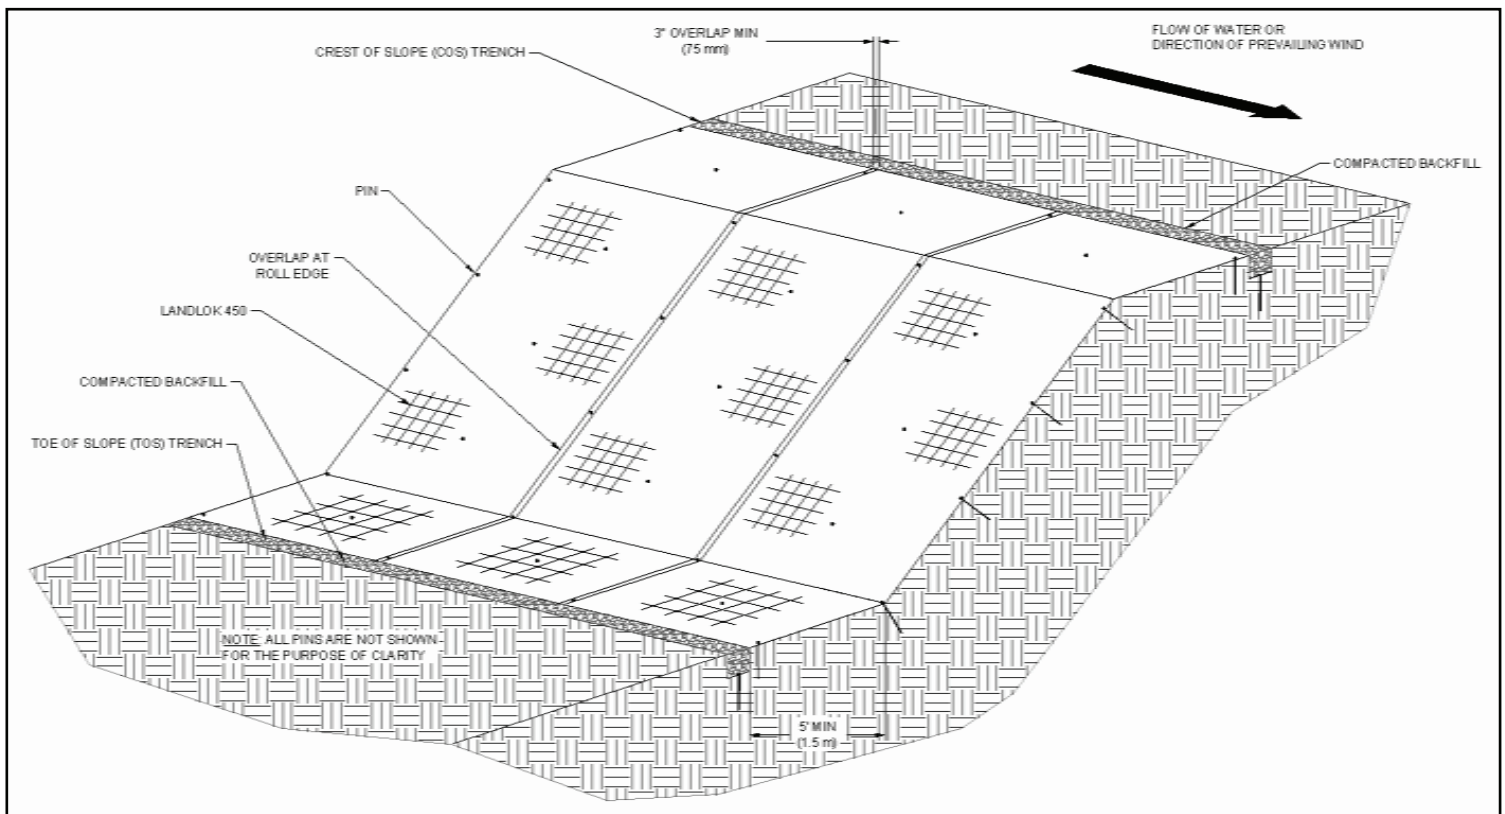

Figure 13: Completed Slope Isometric View
An example isometric view (Figure 13) of a slope armored with Landlok 450 can be seen below for overall reference. Consult Propex Engineering Services at (423) 553-2450 with any questions that you may have.